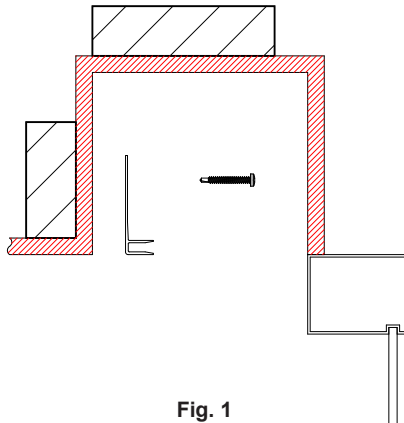

Fig. 1
- 1 Install optional hanger along length of pocket ensuring seams between lengths of hanger are tight and flush. (Fig. 1) Temporarily installing a small piece of closer at joint will aid in leveling the two pieces of hanger.